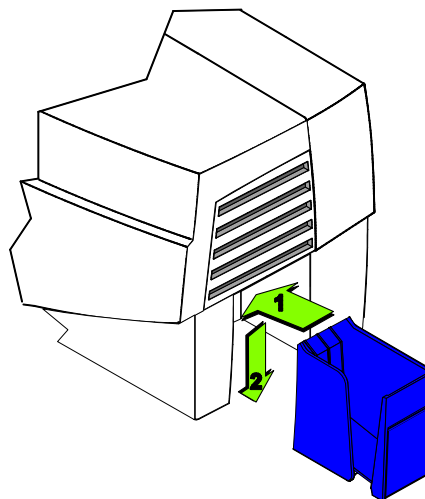

Figure 7-2: Place the card output stacker on the printer
- 10 Open the printer cover and then place the card output stacker on the right end of the printer (Figure 7-2). The card output stacker hooks into the printer.